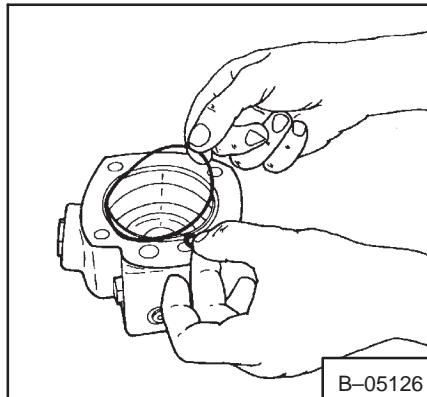

Fig. 3-37 Removing O-rings
5. Remove the two O-rings (small and large) (Fig. 3-37) from the valve housing.